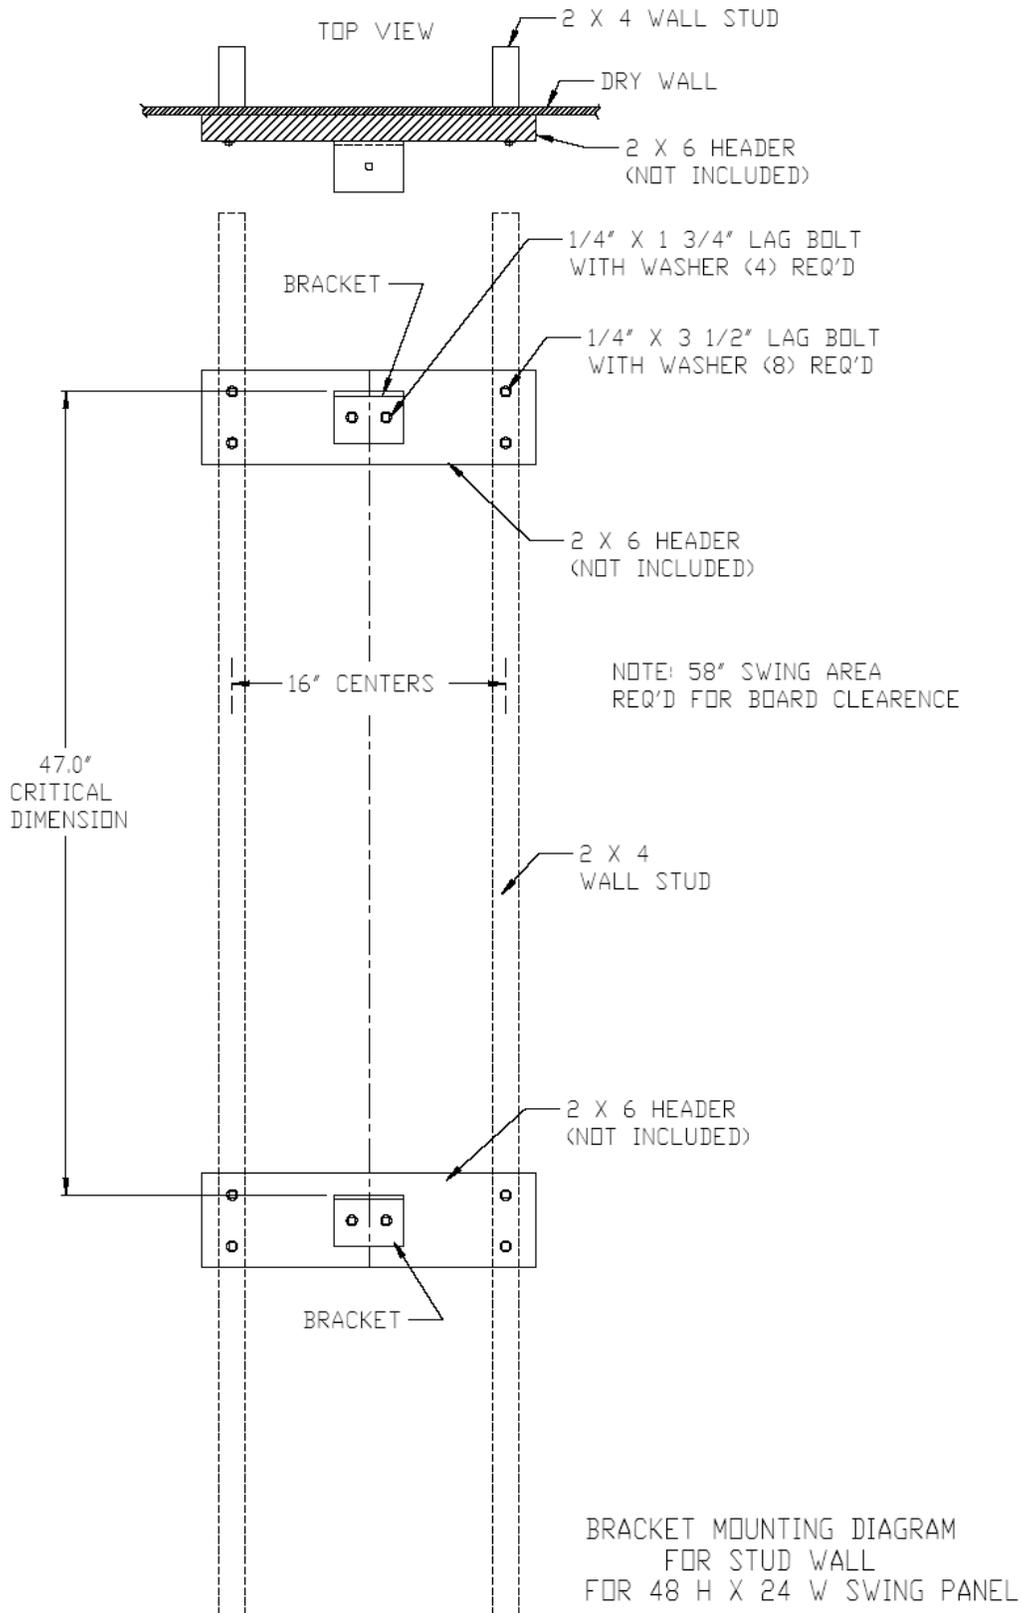

FIGURE 1-4
Note: Before starting Step 5, it will be necessary to determine if your walls are plumb and structurally sound. It may be necessary to install some type of shim system or header for either or both, top and bottom wall brackets. (For 2" x 4" stud walls refer to figure 1-4 for header installation.)
**Step 5. Wall Mount Angle Bracket Installation for concrete walls** (refer to figure 1-1 & 1-2): Each angle bracket has a single pre-drilled hole for swing panel attachment. You will be installing your bottom bracket first. **A)** Determine the appropriate height you want to install off the floor or work surface. **B)** Using one angle bracket as your template, with surface having only one hole on top and flat surface with two holes against the wall at the desired height. (**Avoid mortar joints between concrete blocks.**) **C)** Making sure wall mount bracket is level; mark both hole locations on the wall. **D)** Using 3/16" masonry bit and hole location markings on the wall, drill two holes 1-1/4" in depth. **Do Not Ream Out or Oversize the holes** **E)** Align bracket back over holes drilled and using a #2 Phillips head bit and electric drill set at medium speed, install (2) 1/4" x 1-1/4" masonry screws. . **WARNING: Over tightening could cause holes to become oversized. If holes become enlarged: You must properly repair and re-drill, relocate mounting brackets or install a wood header.** For 2x4" studded walls refer to figure 1-4 for installation.
When installing a system to other types of wall structures it is recommended that a 2" x 6" header be securely installed to multiple studs and that 1/4" lag bolts be used in place of the supplied masonry bolts to attach wall brackets. (Refer to Figure 1-4 for header installation)